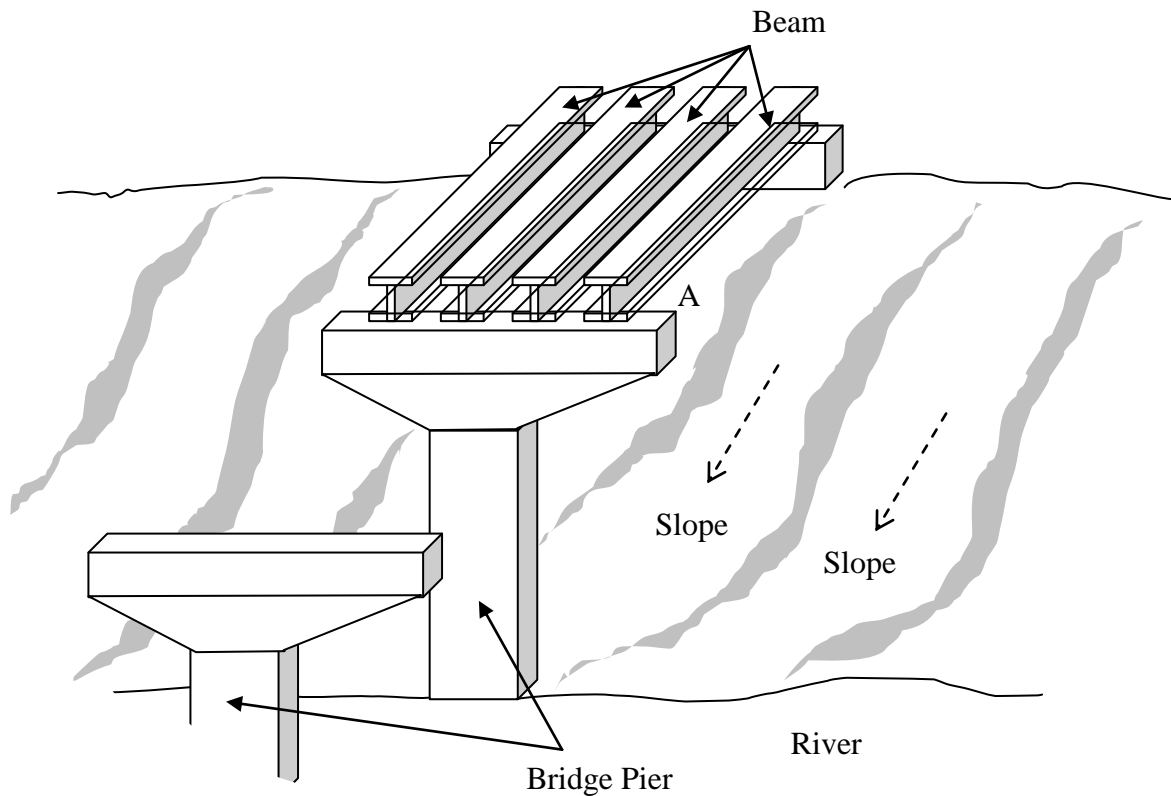

Figure 3.0
3. (a) During construction of a bridge across a river as shown in Figure 3.0, the load on each beam is assumed to be w kN/m, which includes the weight of the beam. The beams are simply supported at piers with a span length of L meter. The beam is also subjected to a concentrated load of P kN at mid span and a clockwise moment of M_0 kN.m at left-hand support (point A) of the beam. Determine the vertical deflection at mid span of the beam in terms of w , P , M_0 and L using the energy method.